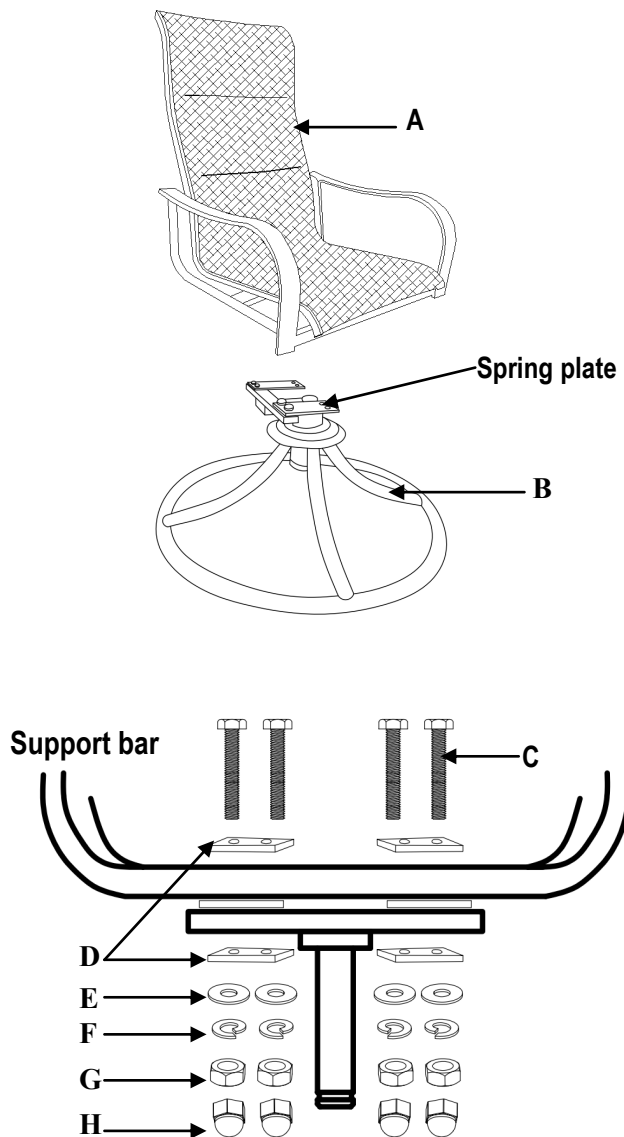

Figure 1
Once all the nuts and bolts are in place, securely tighten all the bolts (C) and nuts (G), including the ones at the front part on the rocker mechanism with the wrench (I). Cover all bolts with bolts caps (H). (FIGURE 1)